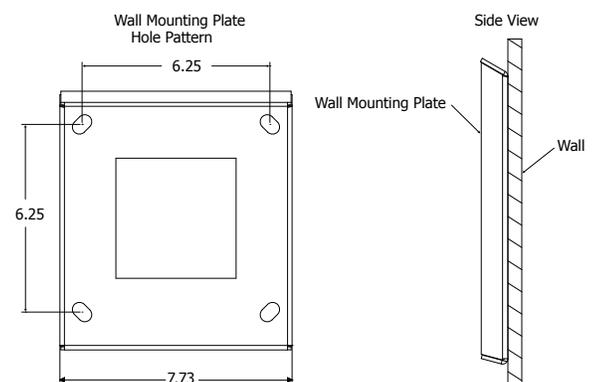

FIGURE 2
2. Place the Wall Plate in desired location so that the flat surface is in contact with the wall and the angled surface is pointing up and away from the wall. Mark locations for supporting anchors (See Figure 2).